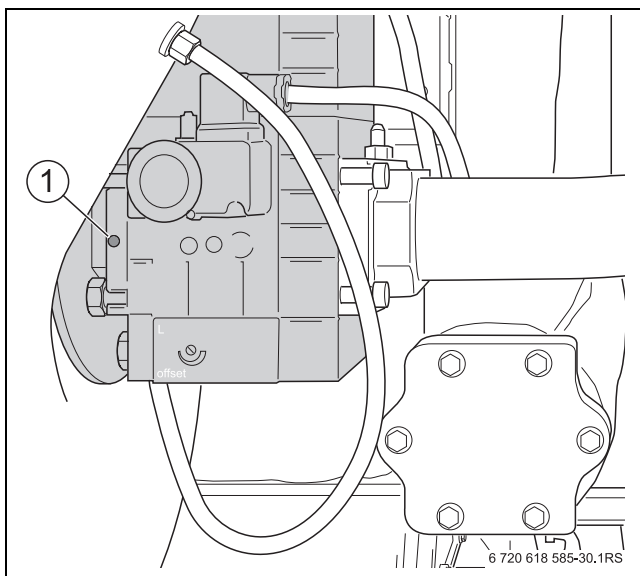

Fig. 32 Checking the CO₂ setting at full load
- In the case of CO₂ values below 8,5 % or above 9,6 %, correct the setting on the high load adjusting screw to 9,1 % (see Fig. 32).